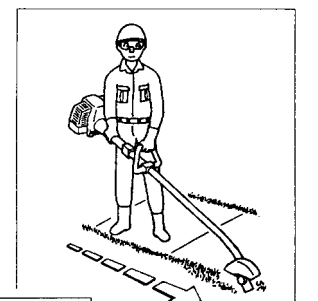

Fig. 2-4C
2) Always hold unit firmly with both hands and keep your body well balanced. 3) Always operate the power edger positioned at the right-side of the operator. (Fig. 2-4C)